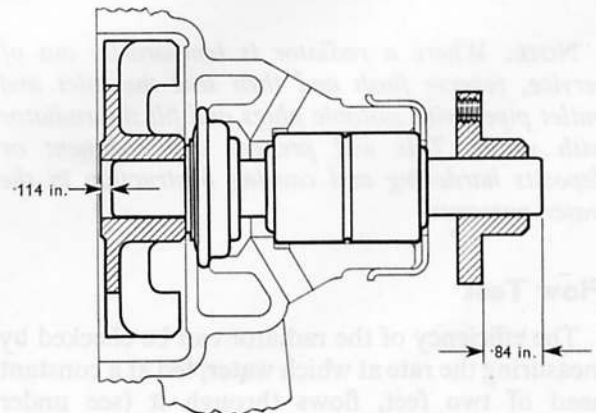

Fig. C.10. The pulley and rotor must be pressed on to the pump shaft to the locations shown
3. With the rear end of the shaft supported, press on a new flange to the position indicated in Fig. C.10.
5. Press on the rotor to the position shown in Fig. C.10.
Shaft dia. .6262 to .6267 in. Rotor and flange bore .6237 to .6247 in. See Fig. C.10 page C-7.